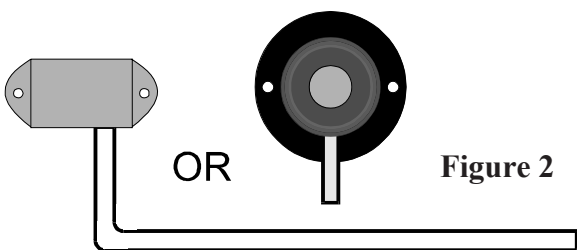

Figure 2
● Mount the sensor in a dry, low area of your boat where gas vapours tend to settle. Do not place the sensor in a humid area such as an outside locker or in an area where it may get wet. Humidity will slowly degrade the sensor and water will destroy it. Orient the sensor with the two small stainless steel screws as shown in Figure 2.
- Mount the sensor in a dry, low area of your boat where gas vapours tend to settle. Do not place the sensor in a humid area such as an outside locker or in an area where it may get wet. Humidity will slowly degrade the sensor and water will destroy it. Orient the sensor with the two small stainless steel screws as shown in Figure 2.